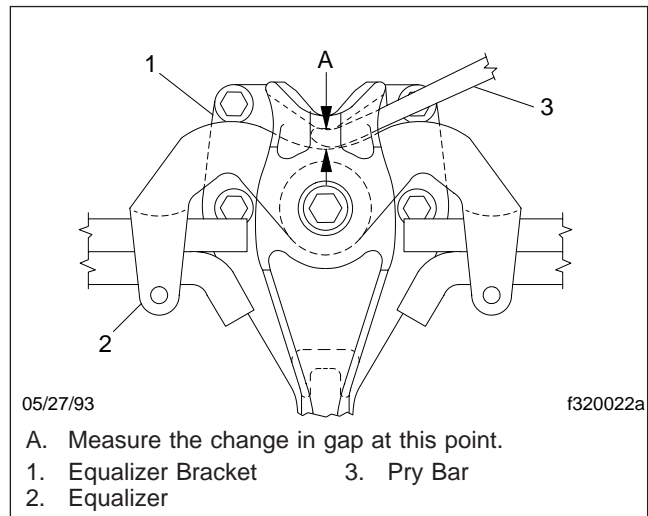

Fig. 3, Side View of the Equalizer
6. Block up the frame enough to take chassis weight off the springs. Attempt to move the equalizer up and down, using a pry bar between the top of the equalizer and top of the equalizer bracket; apply hand pressure only. See **Fig. 3**. If movement at the center of the equalizer exceeds 1/8 inch (3 mm), replace the equalizer bushings. See **Group 32** of the *L-Line and A-Line Workshop Manual* for instructions.